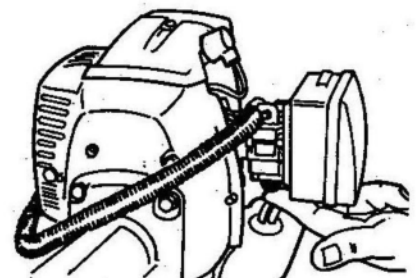

FIG 13
4. Press and release the primer bulb 5 times (Fig. 13).